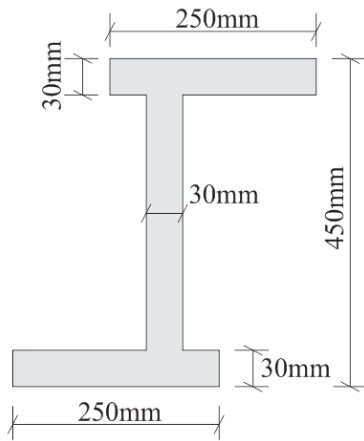

Fig. 6
- (c) Find moment of inertia of a given section in fig. 6 about its centroidal axis 07